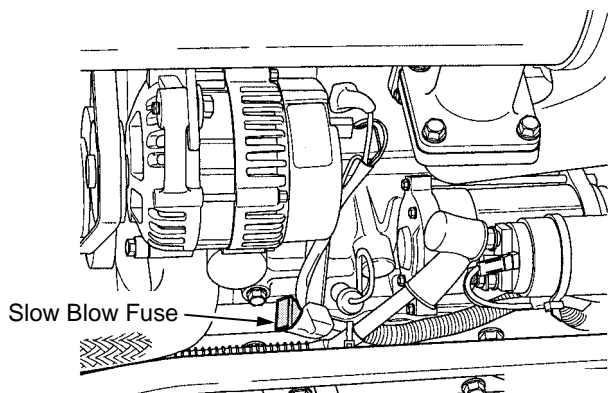

Figure 79
- Locate the slow blow fuse in the wire harness behind the left side panel. See Figure 79.